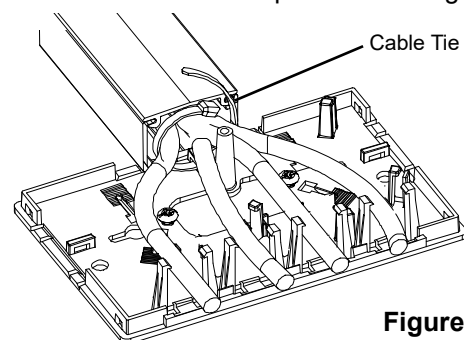

Figure 4
4. Route cables through openings in the rear of surface mount box. Using supplied cable ties, secure cables to the strain relief anchor points. See Figure 4.